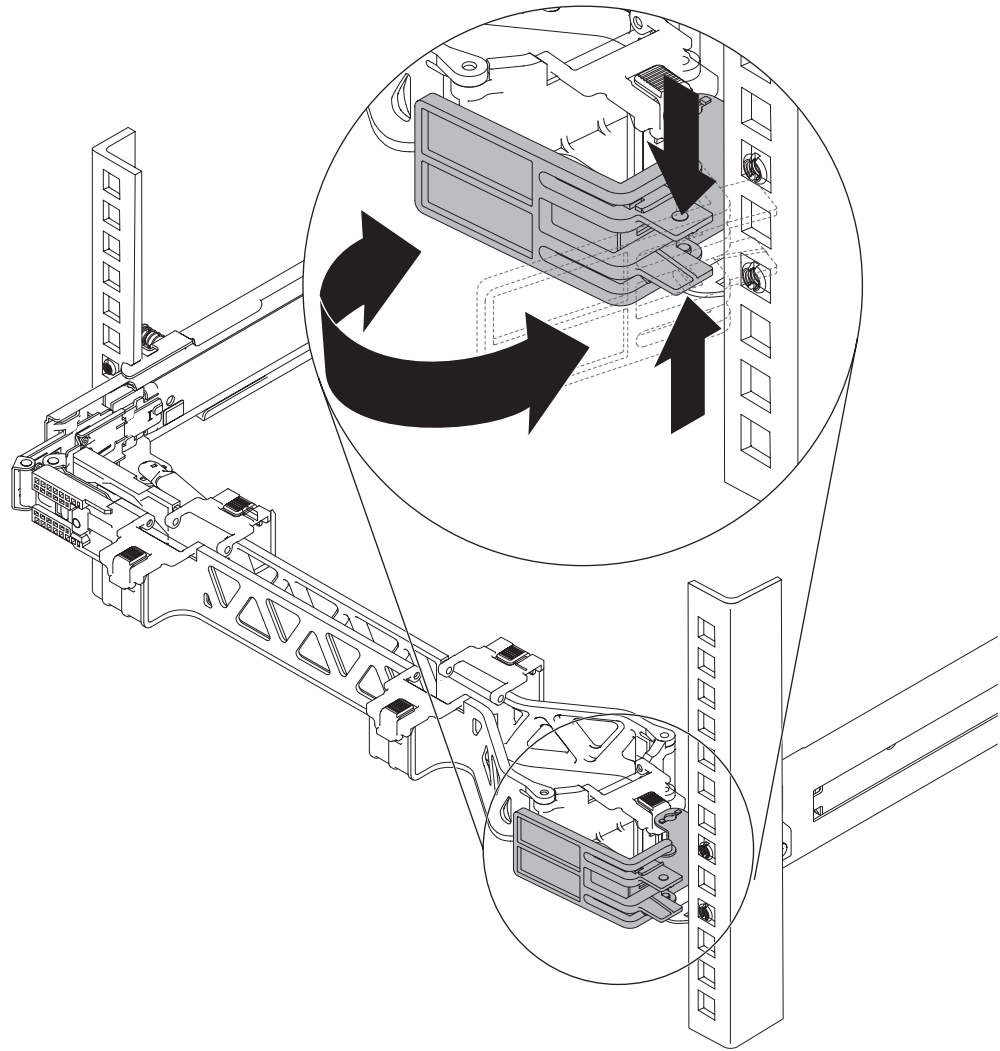

Figure 37. Closing the stop bracket
7. Close the stop bracket as shown in Figure 37 on page 47.